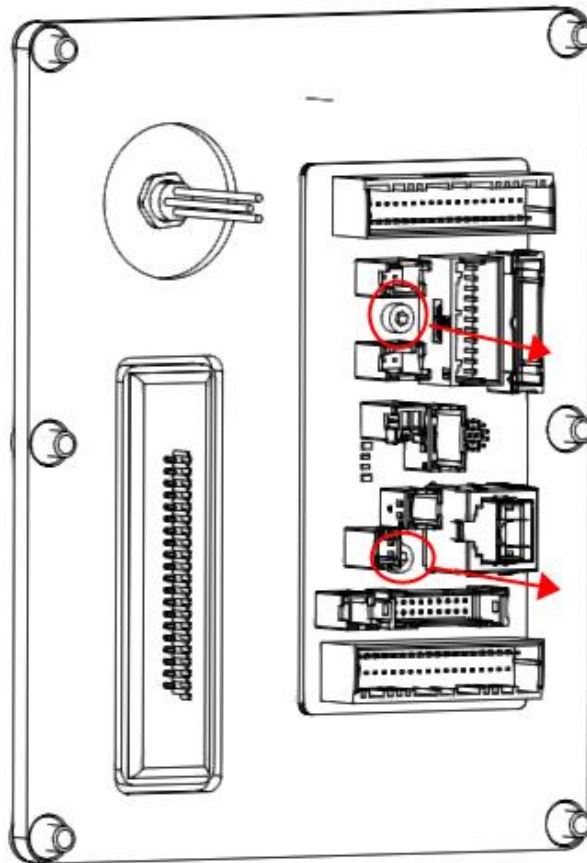

Figure 4-10 IO free distribution PCBA disassembly diagram
Step 4 Use a No. 2.5 wrench to loosen and remove the fixing screws on the IO free distribution PCBA, as shown in Figure 4-10.